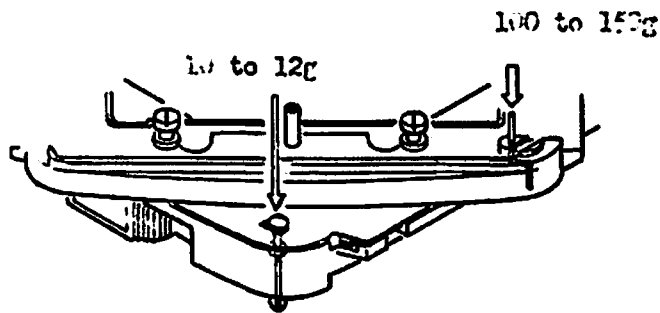

Fig. 96
- (2) Signal pin shall move half-way by weight of 10 to 12g, and turn back slightly (Fig. 96)
- (3) Release lock bar (aRS1261) shall move half-way by weight of 100 to 150g, and turn back smoothly. (Fig. 96)